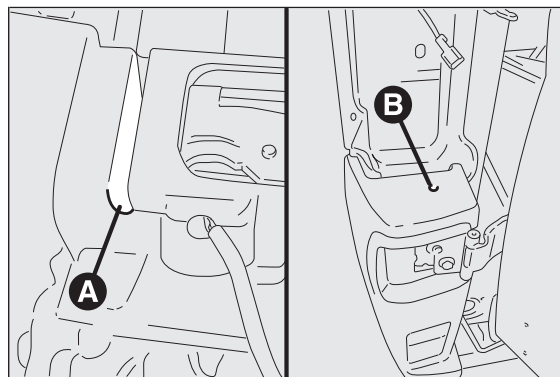

fig. 201
- ❑ unscrew lower fastening A between central and side bumper fig. 201 ;